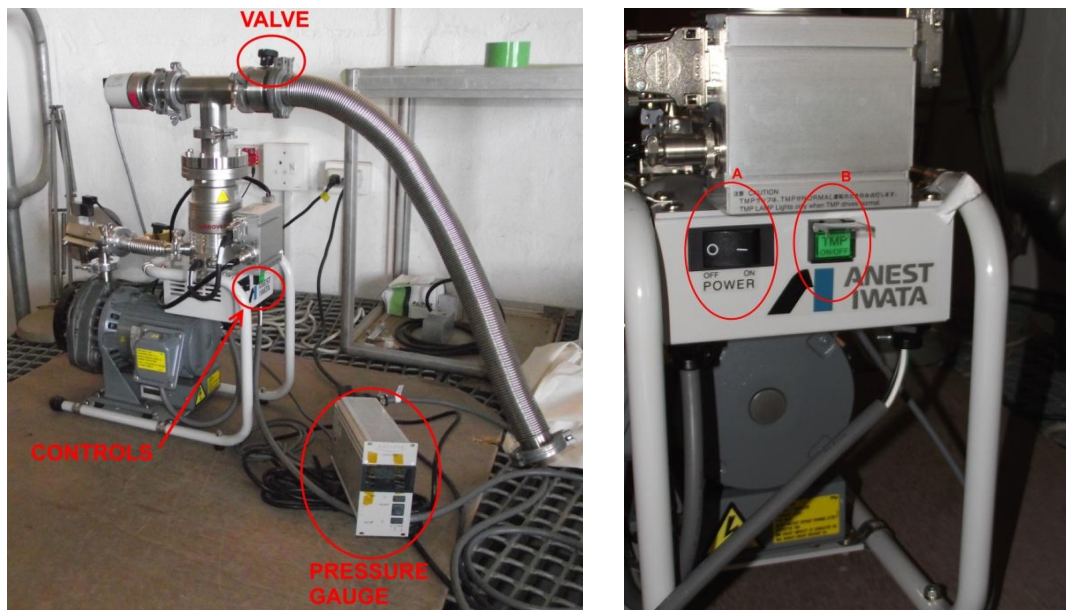

Figure 2: The IRSF Vacuum pump (left),
4. Open the pump valve (see figure 2).
6. Switch Button A ON to start the scroll pump (see figure 2). Wait until the pressure in the hose reaches  $1 \times 10^{-2}$  torr or less.
7. Switch Button B ON to start the turbo molecular pump (see figure 2). Pump for 5 minutes.